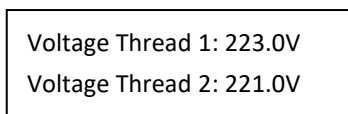

Fig. 4-3. Main interface
(2) After startup, the display screen is kept in the first main interface, and displays the basic output information of the module, as shown in Figure 4-3.